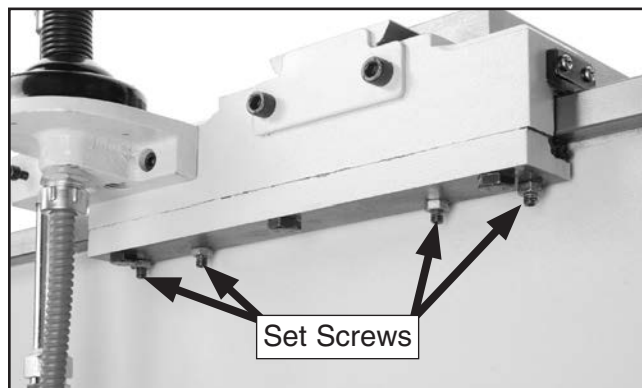

Figure 109. Saddle gib components (viewed from rear of saddle).
The saddle gib is located on the bottom of the slide (see **Figure 109**). This gib is designed differently than the cross or compound slide gibs. Instead of being a wedge-shaped plate, it is a flat bar. The gib pressure is applied by four set screws. Hex nuts secure these set screws in place, so they will not loosen during operation.
2. Loosen jam nuts on four set screws shown in **Figure 109**, and adjust set screws same amount as follows: